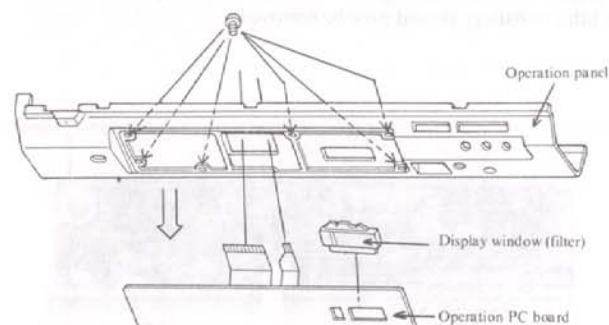

Figure 10-6
1. Mounting the operation PC board (refer to figure 10-6)
- ① With the operation PC board turned upside down, place the display window (filter) into the opening in the operation PC board.
- ② Next, place the operation panel over the operation PC board and put the screws in and tighten them (put the cable through the opening in the operation panel).